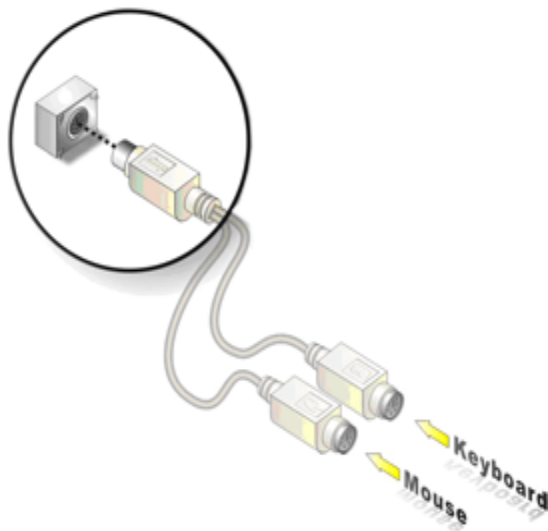

Figure 5-18: PS/2 Keyboard/Mouse Connector
Step 2: **Insert the keyboard/mouse connector.** Insert the PS/2 connector on the end of the PS/2 y-cable into the external PS/2 connector. See **Figure 5-18**.